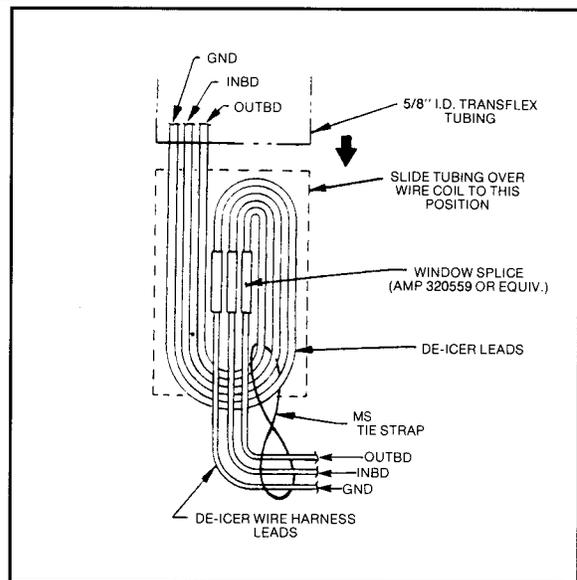
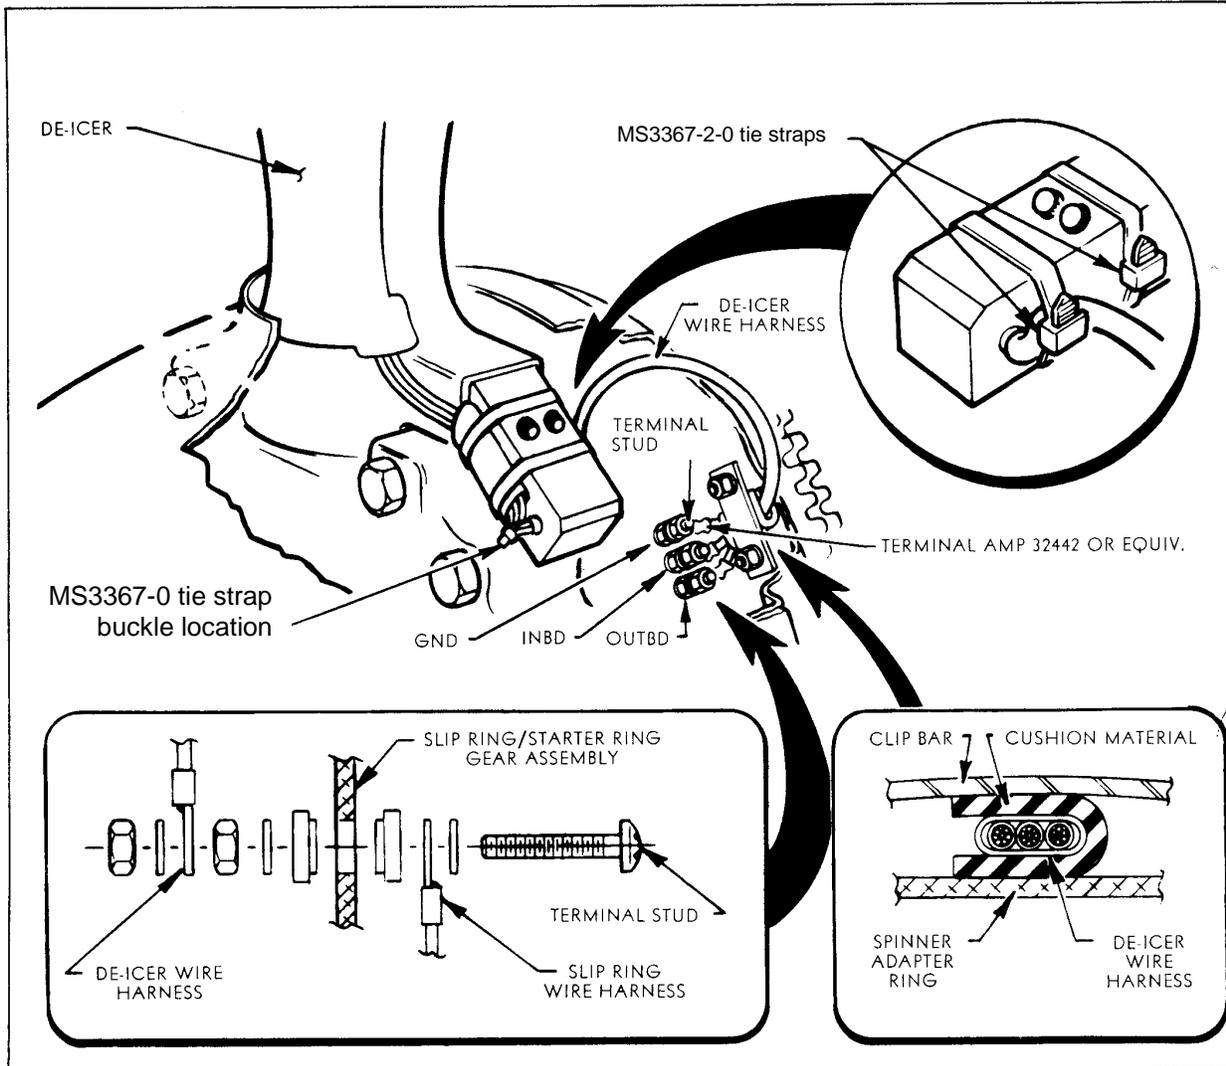

Figure 5 - Lead Configuration
Figure 7 - Assembly and Wiring Details - Slip Ring/Starter Ring Gear Assembly
- c. Form wires and install MS3367-1-0 tie strap in figure eight configuration as shown in **Figure 5, this page**. Tighten tie strap and slide tubing over coiled wires. Install MS3367-2-0 tie straps loosely around counterweight and wire harness $\frac{1}{4}$ " in from ends of tubing and assure position of tie strap buckles per **Figure 6, this page & Figure 7, page 7**.